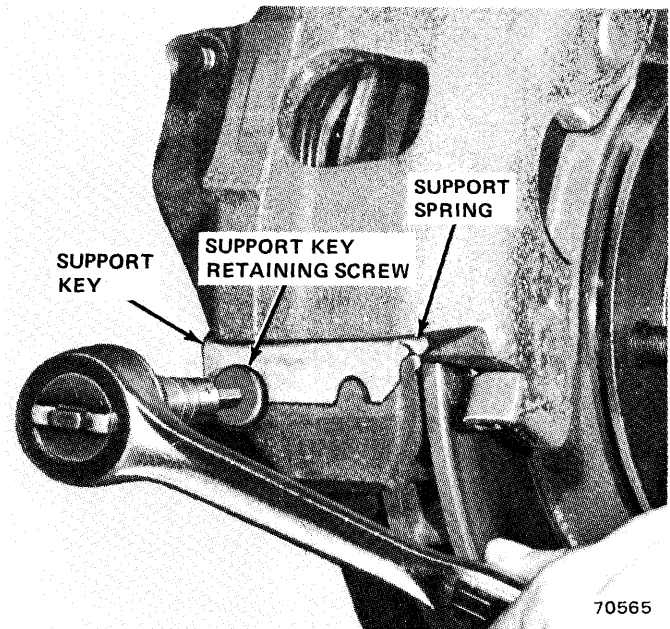

Fig. 9-45 Removing Support Key Retaining Screw
(7) Remove support key retaining screw using 1/14-inch hex or Allen wrench (fig. 9-45).